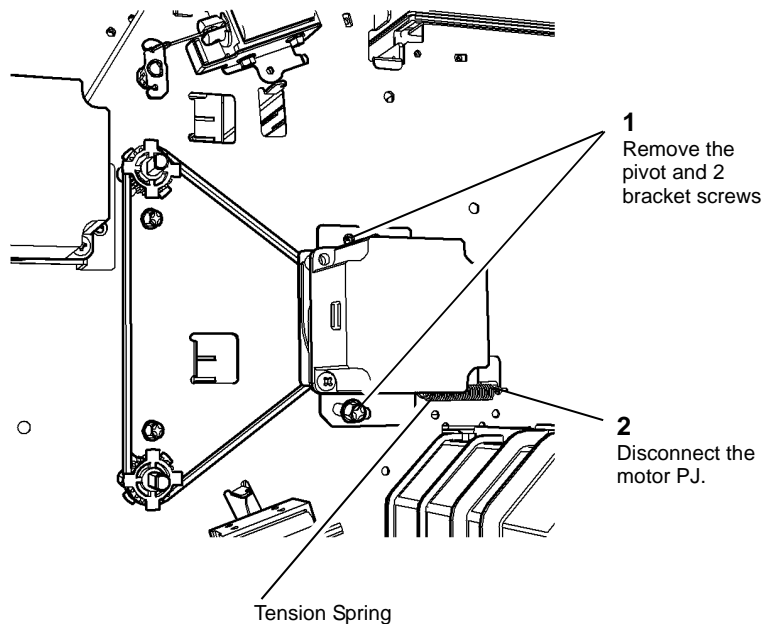

Figure 1 Buffer feed motor and bracket
2. Remove the buffer feed motor and bracket assembly, Figure 1.